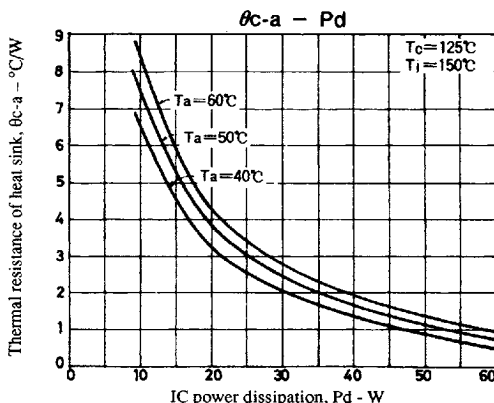

Figure 3. STK 4036V θc-a - Pd
Fig.3 shows the relation between Pd and θc-a given from (1) and (3) with Ta as a parameter.
The thermal resistance of a heat sink is obtained from Fig.3.